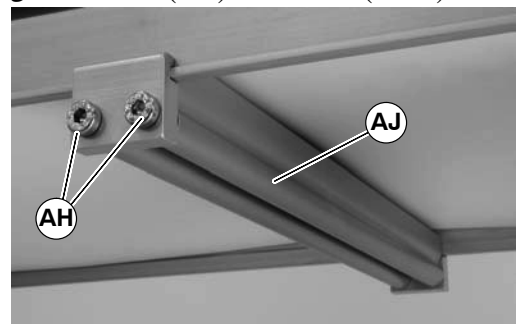

Figure 17
3. Install roller assembly as shown (AJ of Figure 17). Tighten screws (AH) to 60 in-lb (7 Nm).